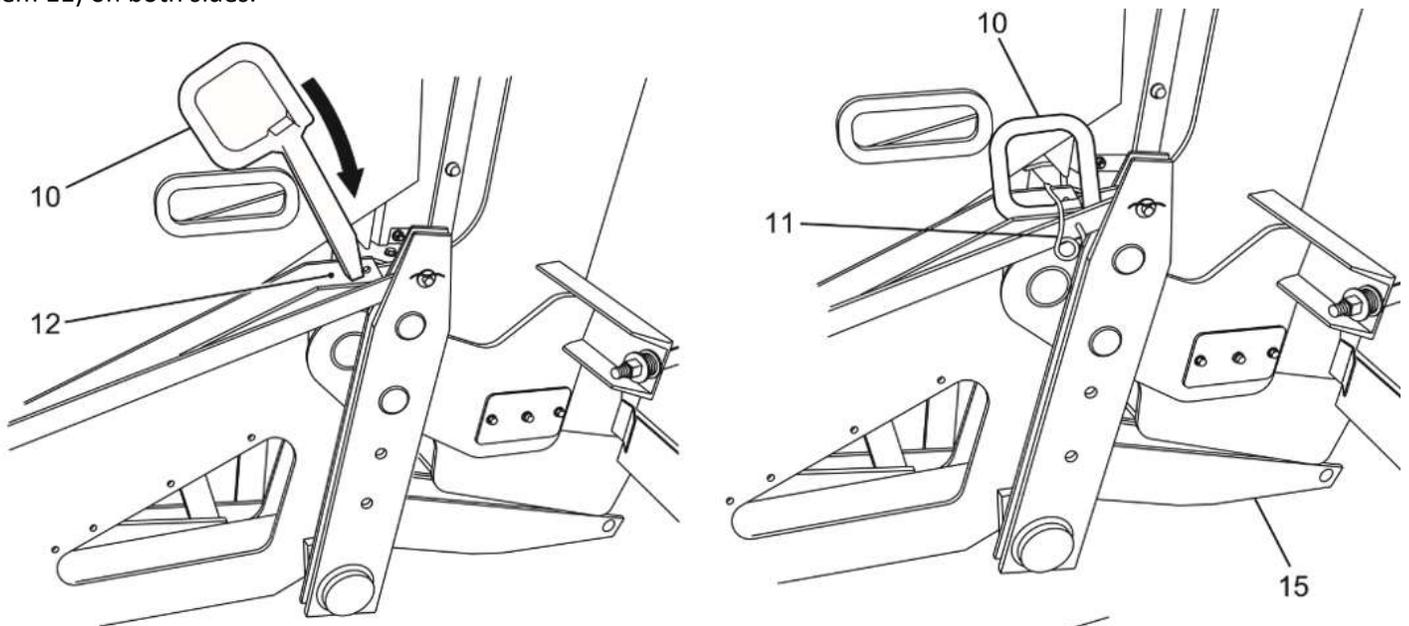

Figure 58 Header locking pins
STEP 4 - FIGURE 58
Lift the head in operating position (item 15, Figure 58). Install the chain by routing it under the tensioner (item 18). Position the header sprocket (item 21) on the shaft to align it with the harvester drive sprocket. Adjust the chain tension to 6 mm (1/4in) of deflection for 7 kg (15lb) force. Tighten the tensioner in place.